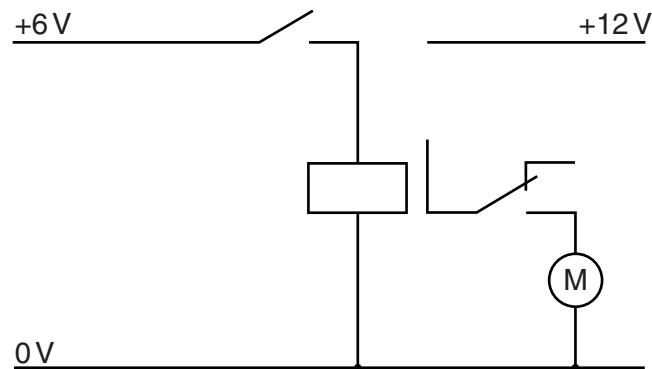

Fig. 6
(c) Fig. 6 shows a circuit used to operate a motor.
- (i) Draw an ammeter on the circuit in Fig. 6 to measure the motor current. [1]
- (ii) Draw a voltmeter on Fig. 6 to show the voltage at the motor. [2]
- (iii) Explain how the circuit in Fig. 6 operates.